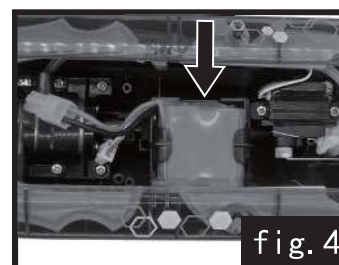
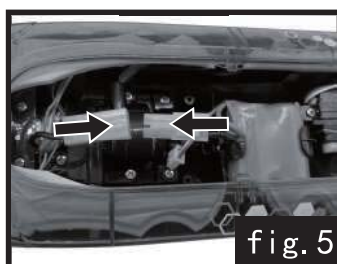

fig. 4
fig. 5
3. Install the battery and connect to power input of boat, fig. 4 and fig. 5.